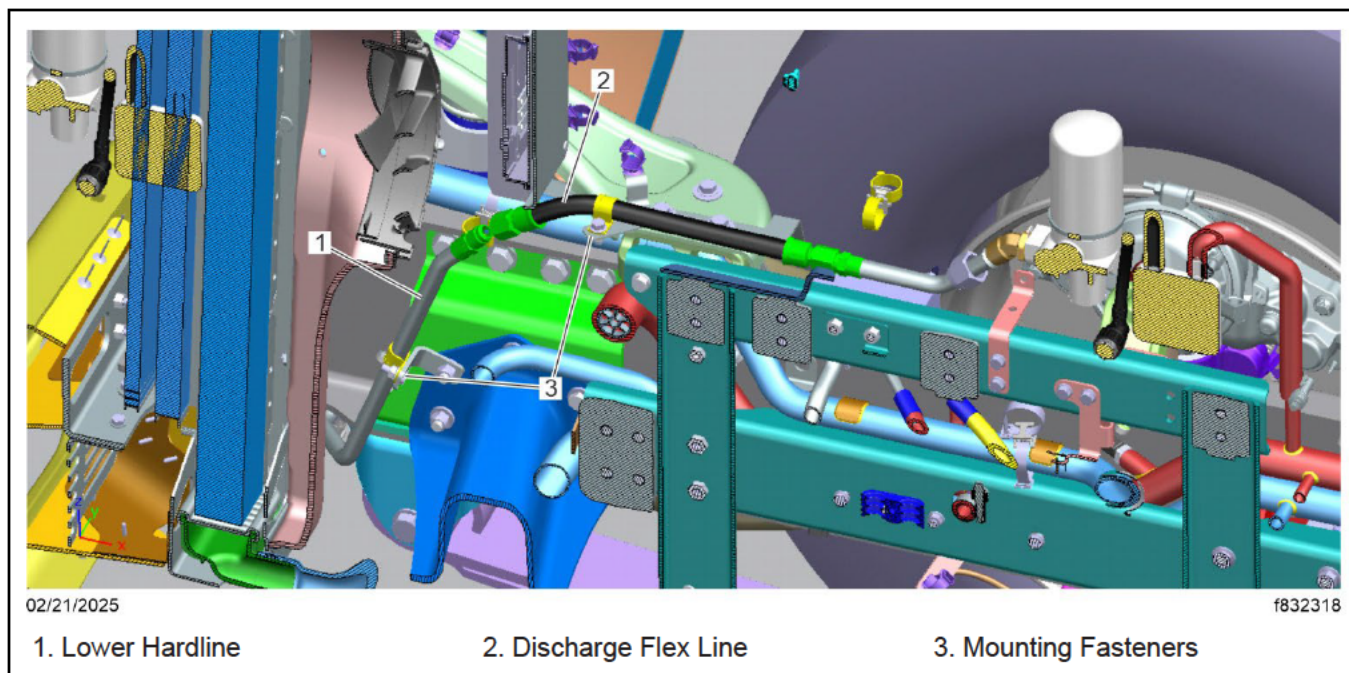

Fig. 3, Removing the Old Discharge Line Routing
5. Remove the fasteners from the two P-clamps that support the discharge line. See Fig. 3.
7. Remove the discharge flex line and the lower hardline. See Fig. 3.